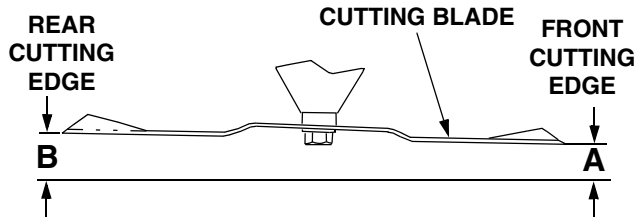

Figure 33
- Refer to Figure 33. Measure and record the distance from the front cutting edge to the ground (measurement A), and from the rear cutting edge to the ground (measurement B), for each of the blades. The front edge of each blade (measurement A) should be lower than its back edge (measurement B) by 1/8 to 1/4 inch.